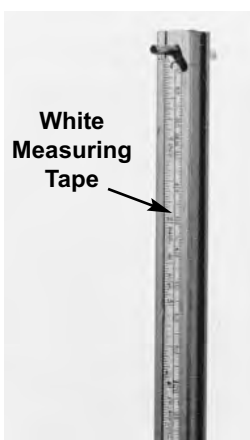

Figure 67
2. Select attachments suited for the reference points (holes) each gauge will mount to. Commonly used attachments are the Notched, Magnetic, and Fixed Pin. Also used is the roll pin on the end of each scale. If using this roll pin, turn the scale so the white measuring tape faces away from the side of the vehicle. (See Figure 67.) Its calibration begins at the bottom edge of the roll pin. (See additional information — Page 8.)